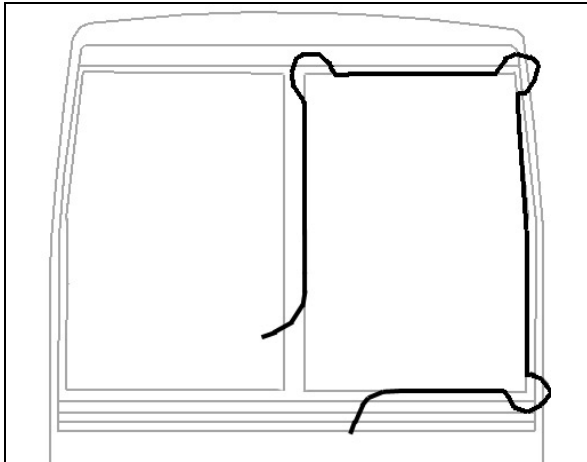

FIGURE 92: WINDSHIELD INSTALLATION USING ROPE
- Insert rope into rubber extrusion leaving enough length at each corner to make a loop. Spray soapy water onto rope and rubber extrusion (Fig. 92).